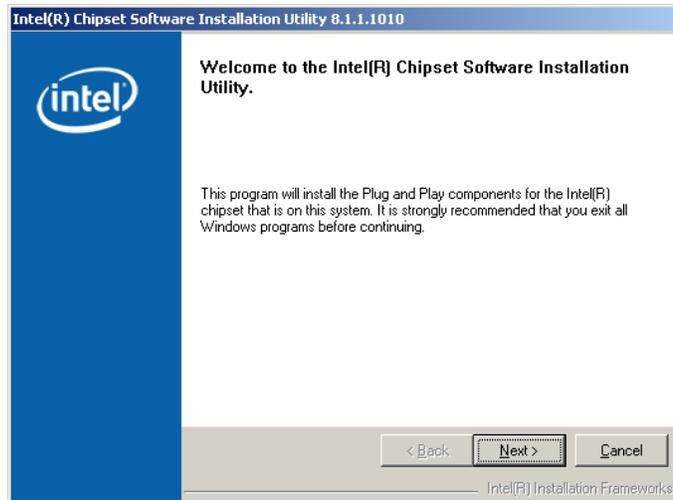

Figure 6-3: Chipset Driver Installation Welcome Screen
Step 4: The welcome screen in **Figure 6-3** appears.
Step 5: Click **NEXT** in **Figure 6-3** to continue the installation process.